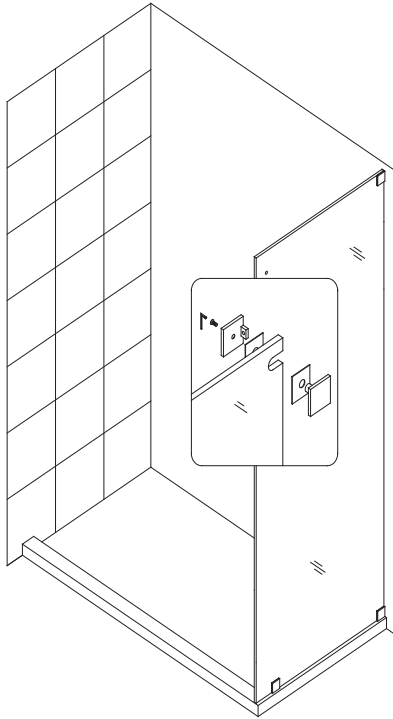

Fig 5
5. Place the **Return Panel (#27)** back in the designated position and assemble the **Wall Brackets (#19)** onto the glass. Use the provided gaskets and sleeve to protect the glass. **(Fig 5)**